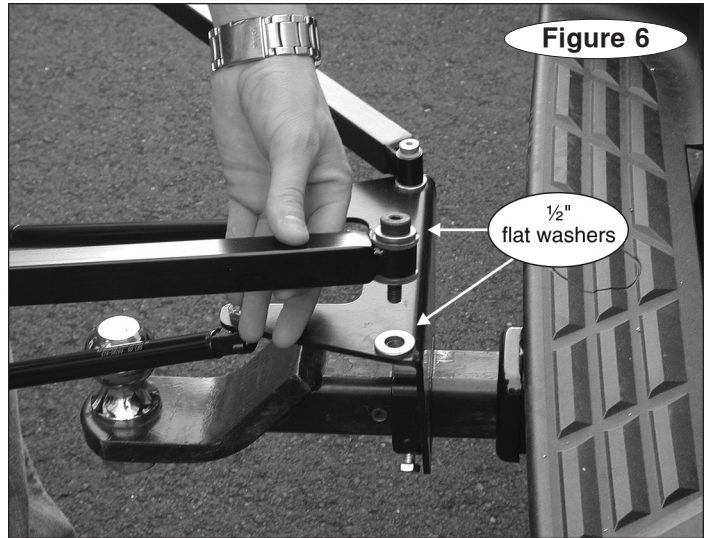

Figure 6
6. Position one of the 1/2" flat washers over the appropriate 3/8" hole (Figure 6) you drilled in the preceding step. Insert another 1/2" flat washer through one of the replacement shoulder bolts and hold the washer against the top of the bolt.
and into the collar (Figure 6).